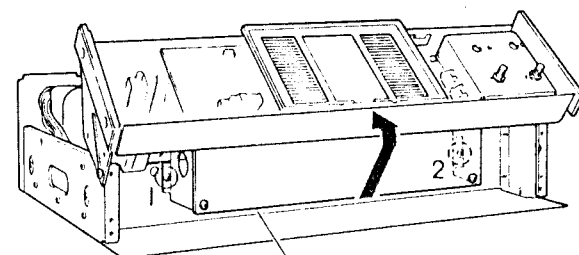

Fig. 9
- b. Open the sub-chassis as shown in Fig. 9. In this condition it is possible for you to check the power circuit board.
- c. Remove the screws ① and ② in Fig. 9.